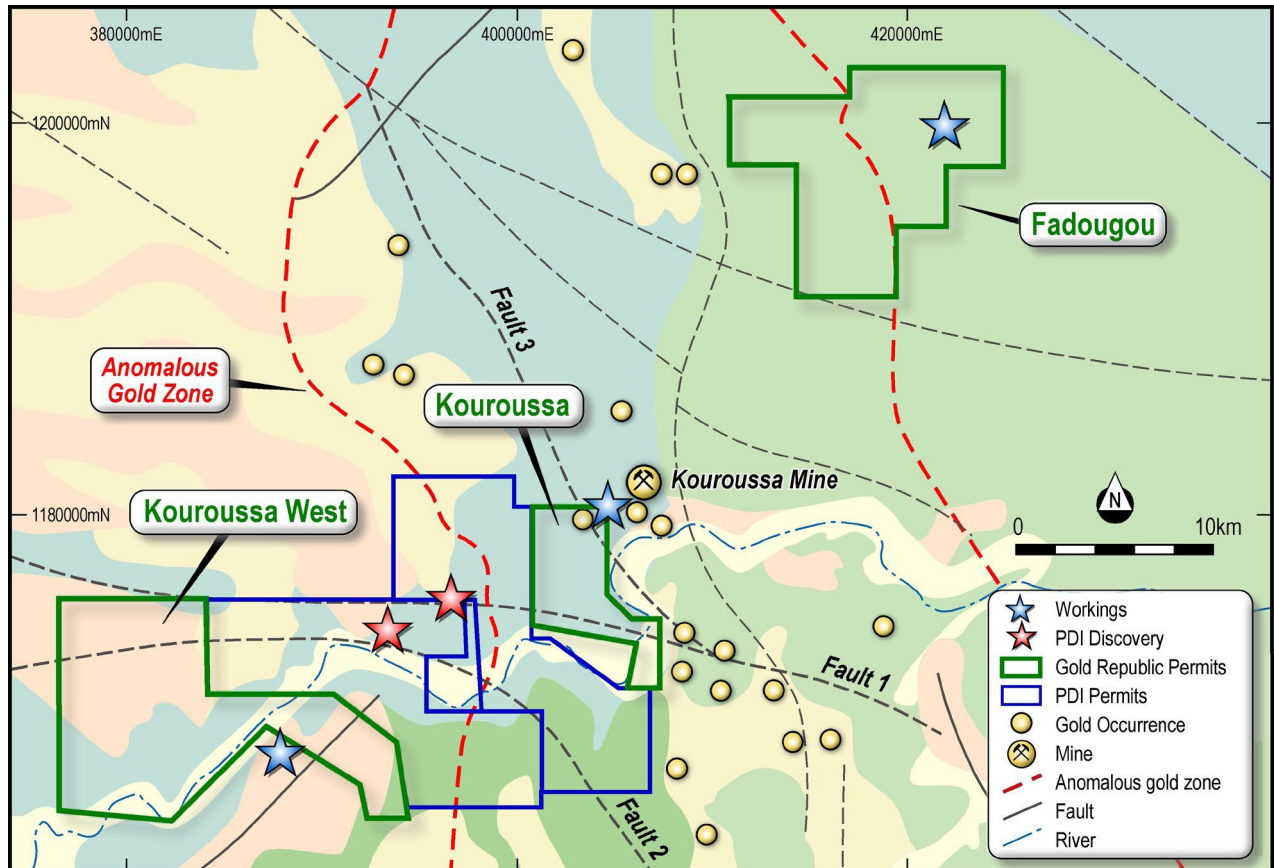

Figure 2. Permits on regional scale geological map (*Digitized from Guinea Government Geological Map of 2006*)
- Review of previous geological maps covering the Kouroussa Project (Kouroussa, Kouroussa West and Fadougou permits) have identified a series of EW (Fault 1 and Fault 2) trending faults displaced by a second set of NS (Fault 3) trending fault systems. A final NE sequence of interpreted faults is aligned with the main know deposits in the region. Gold mineralization seems to be associated with the fault systems which cut through the Kouroussa and Kouroussa West permits (see Figure 2 below).